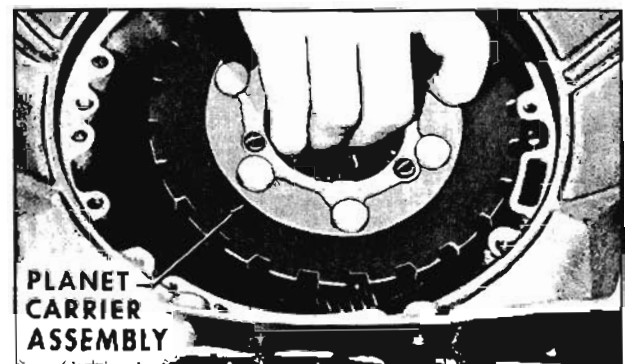

Fig. 6-287 Removing Planetary Gear Set
1. Remove planet carrier assembly from case, using care not to damage case bushing. (Fig. 6-287)